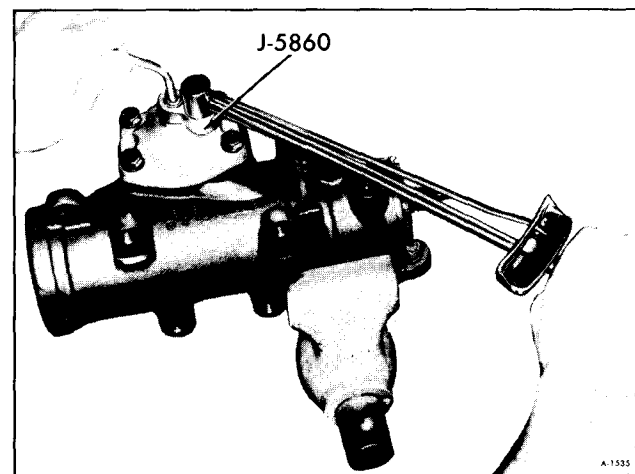

Figure 55—Torquing Over-Center Locknut
- e. While holding the adjusting screw, tighten the locknut to 35 foot pounds using Adapter J-5860 (figure 55) and recheck the adjustment.